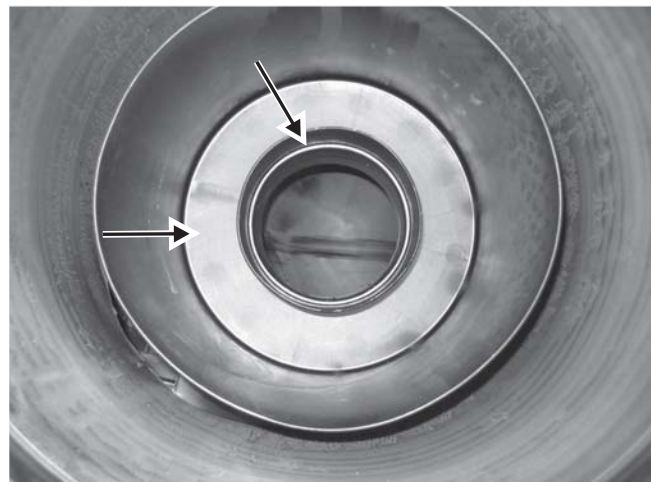

Fig. 10-15 View of the radial seal surfaces inside the air canister. Clean mating surfaces for good seals.
* Clean mating plastic body for radial seal surfaces. **Fig. 10-15**